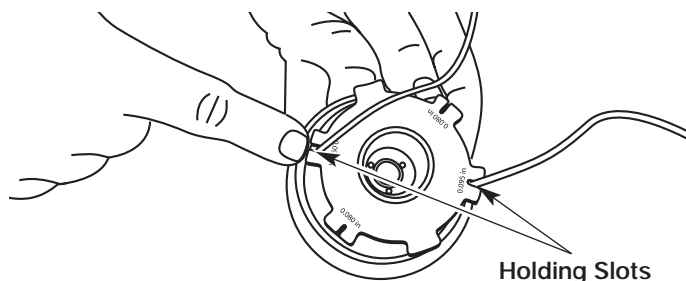

Figure 38
- Insert the ends of the line into the two holding slots. See Figure 38.